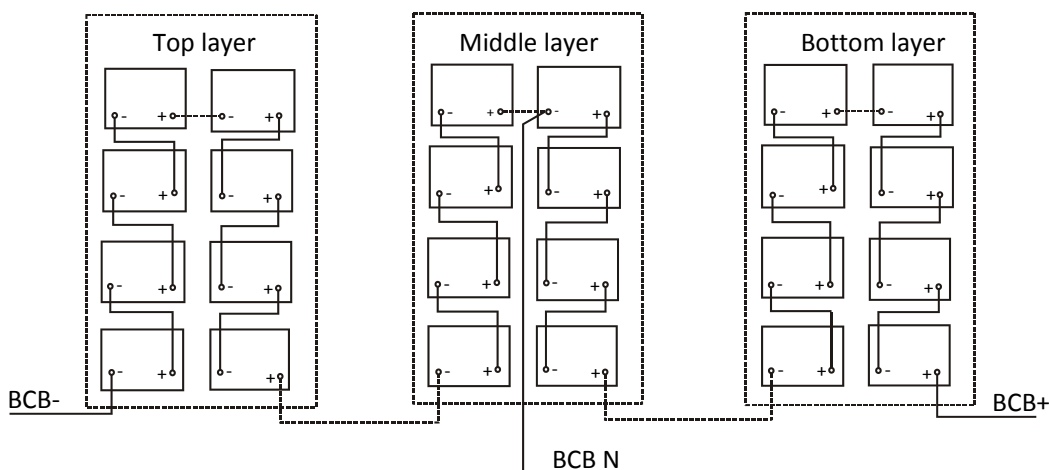

Figure 6-1 Connection of batteries
8. See Figure 6-1 for battery connection.